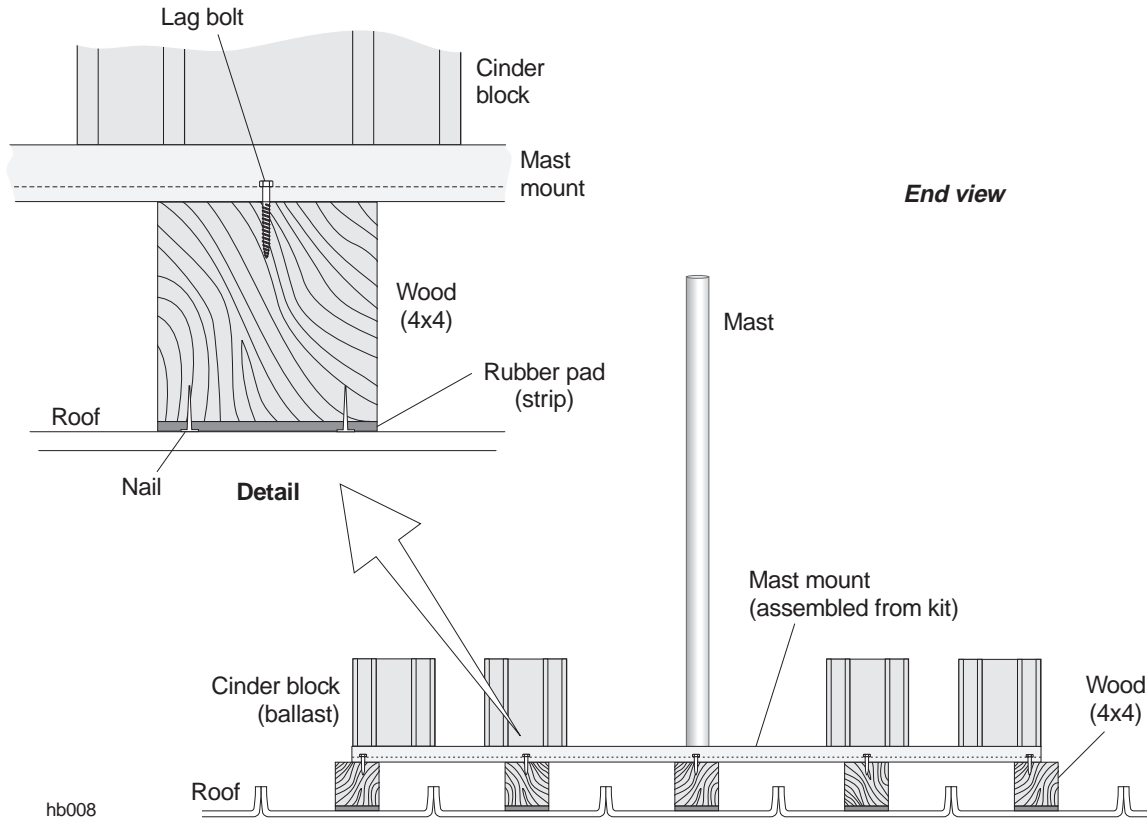

Figure 3-10 Supporting the mount on a corrugated aluminum roof
4. Use 5-penny shingle nails to nail one strip of rubber pad to one surface of each piece of lumber. See figure 3-10.
5. Lay out the 4 x 4s, as shown in figure 3-10, so that each piece is:
- Equally spaced to support the mast, mount braces and sides, and concrete blocks, as shown in figure 3-10.
Install the bolts through the holes in the mount's outer frame and into the wood. Use one bolt at each end of each piece of lumber (as shown in figure 3-10). Use one bolt at the center of each remaining side of the mount.